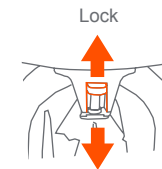

Fig. 15b
- Push the button on the wheel upward to engage the locks and push downward to disengage the locking device (Fig. 15b).